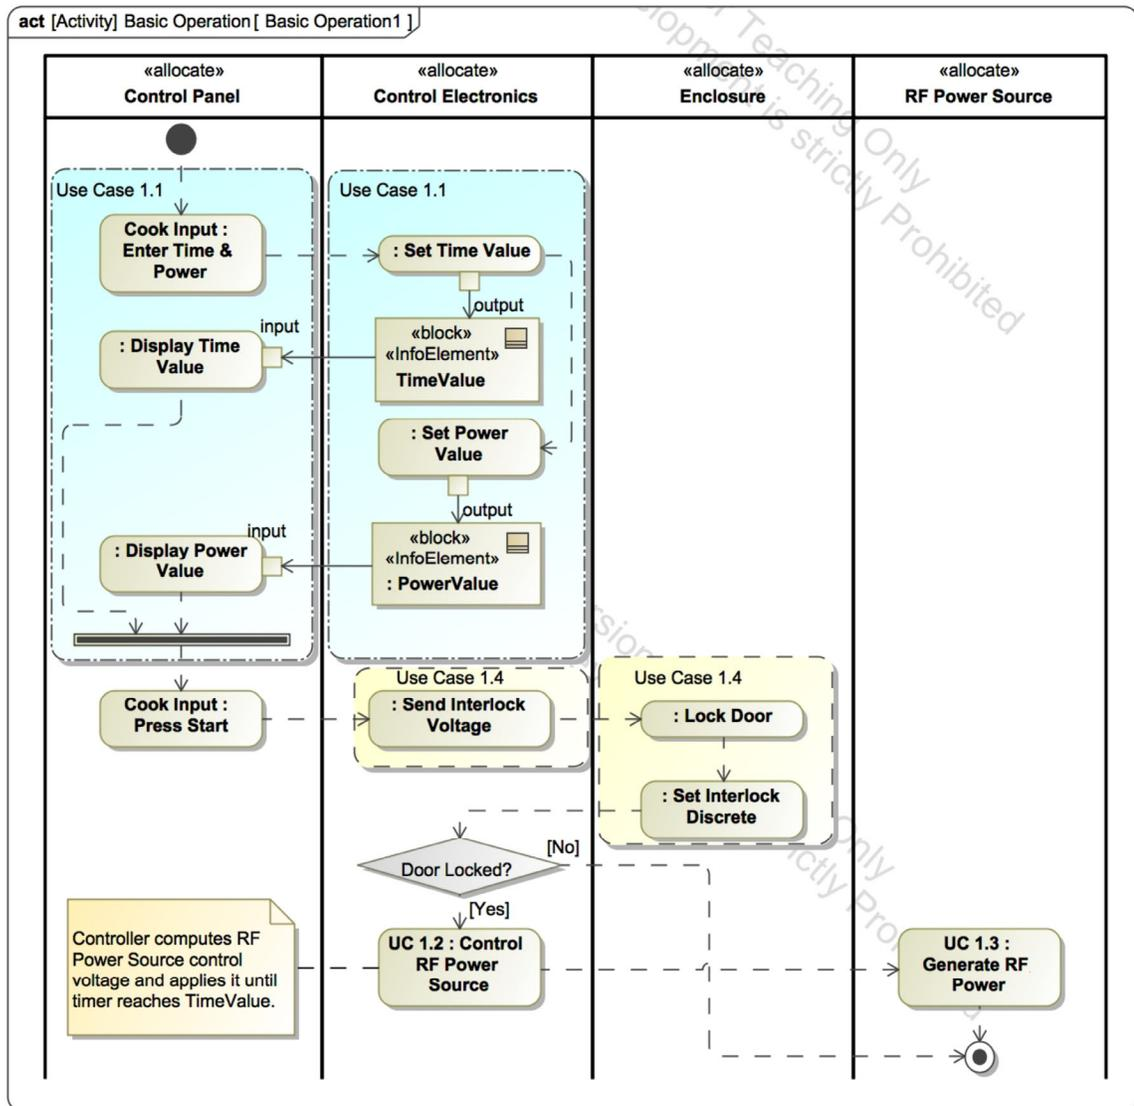

Figure 31. “Day-in-the-Life” Basic Operation of the Microwave Oven.
- E. Fig. 31 shows a slightly more complex AD that illustrates another common modeling practice. This is the use of an AD to show the overall, normal behavior of a system, sometimes referred to as a “day-in-the-life.” In Fig. 31, the Domains of the microwave oven are shown executing the series of